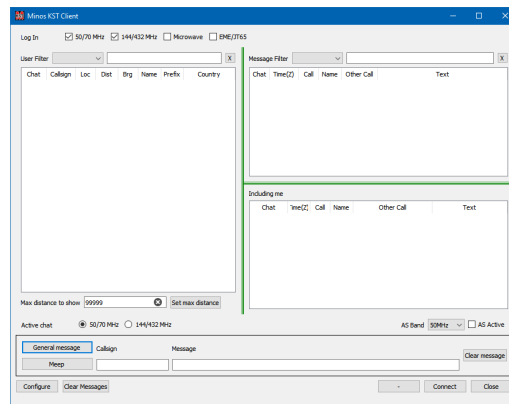
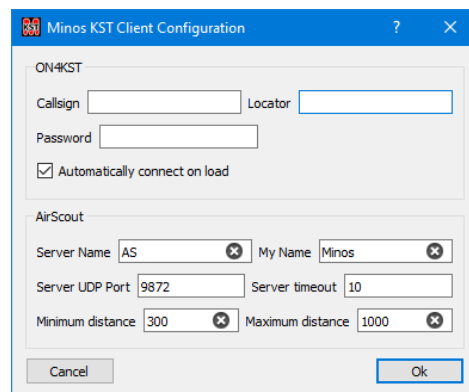

Figure 133 – KST Startup
Figure 134 – KST Client configuration
‘**Configure**’ – invokes the Configuration panel (Figure 134) which then requires:
- **Meep** – (CR)
- **Configure** – invokes the Configuration panel (Figure 134) as described above.
If the **'AS Active'** box is ticked (just above the 'Clear Message' button on the bottom right of Figure 133) then AirScout integration is started, subject to the requisite configuration information having been supplied (see Figure 134):